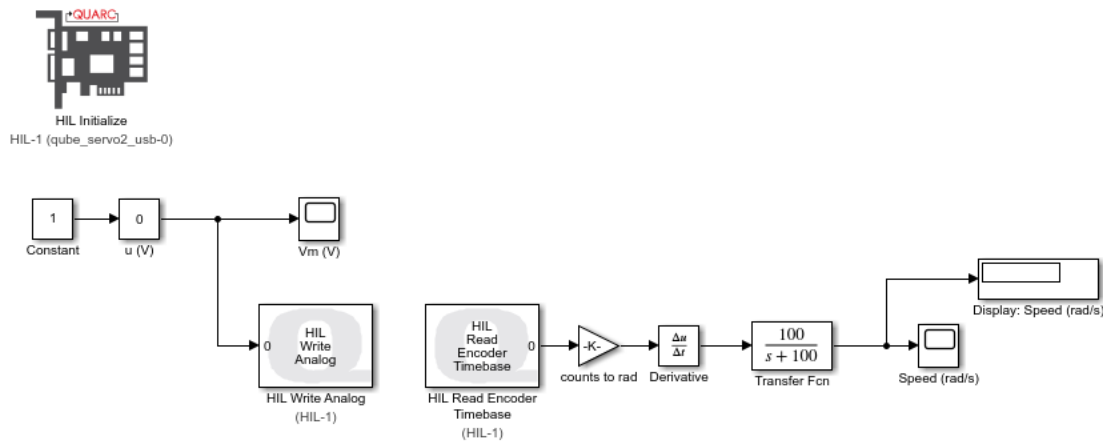

Figure 2.1: Simulink/QUARC model used to identify Coulomb and viscous friction coefficients
The Simulink model shown in Figure 2.1 can be used to apply different voltages to the DC motor on the QUBE-Servo 2 and measure its corresponding angular velocity and current. This is used to identify the torque needed to overcome the static friction to get the Coulomb friction parameter as well as find the viscous friction coefficient by looking at the changes in motor velocity with respect to the torque applied.
1. Create the Simulink model shown in Figure 2.1 using the model designed in Filtering laboratory experiment or open the `q_qube2_friction_id` Simulink model (if supplied).